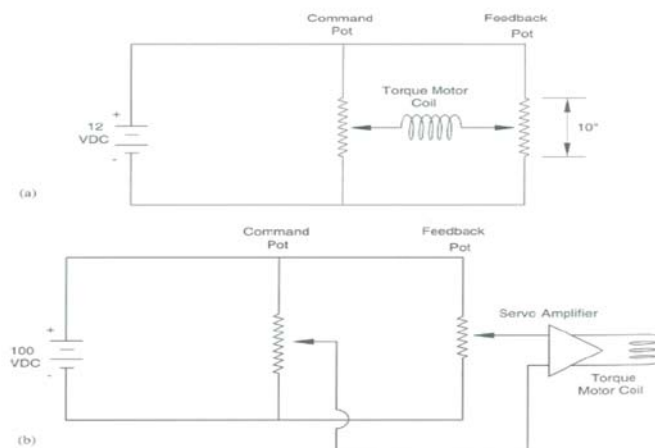

FIGURE 11.32
- This feature allows the use of high-resistance pots and high supply voltage. (Fig 11.32 b)
- If feedback pot travel is 10 in., the feedback transfer function (TF) is $100\text{V} / 10 \text{ in.} = 10\text{V/in.}$